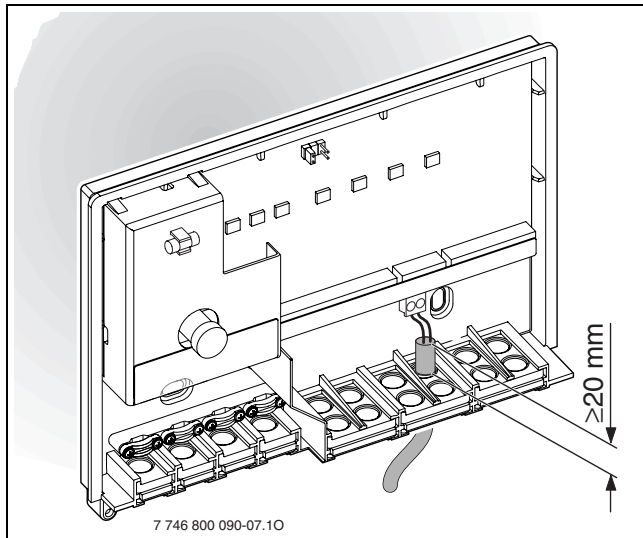

Fig. 12 Splashproof
To safeguard the splashproof rating (IP): route cables so that the cable sheath extends into the cable grommet by at least 20 mm (→ fig. 12).